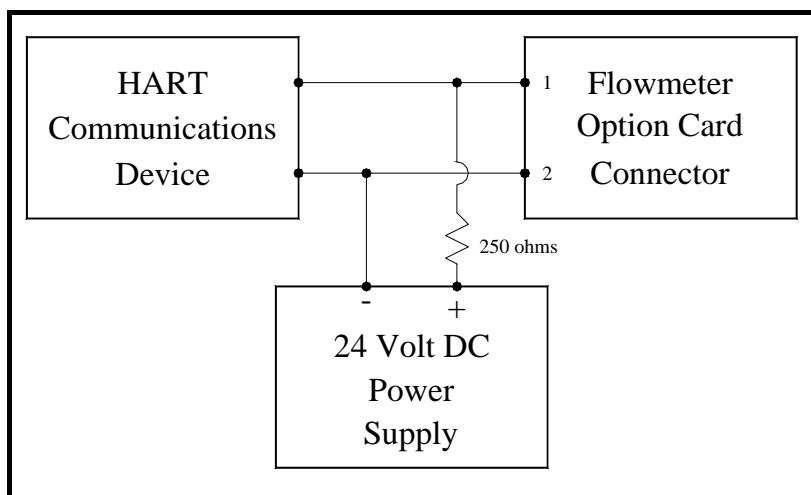

Figure 1: Option Card Wiring
3. Interconnect the HART option card and the HART device as shown in Figure 1 below.